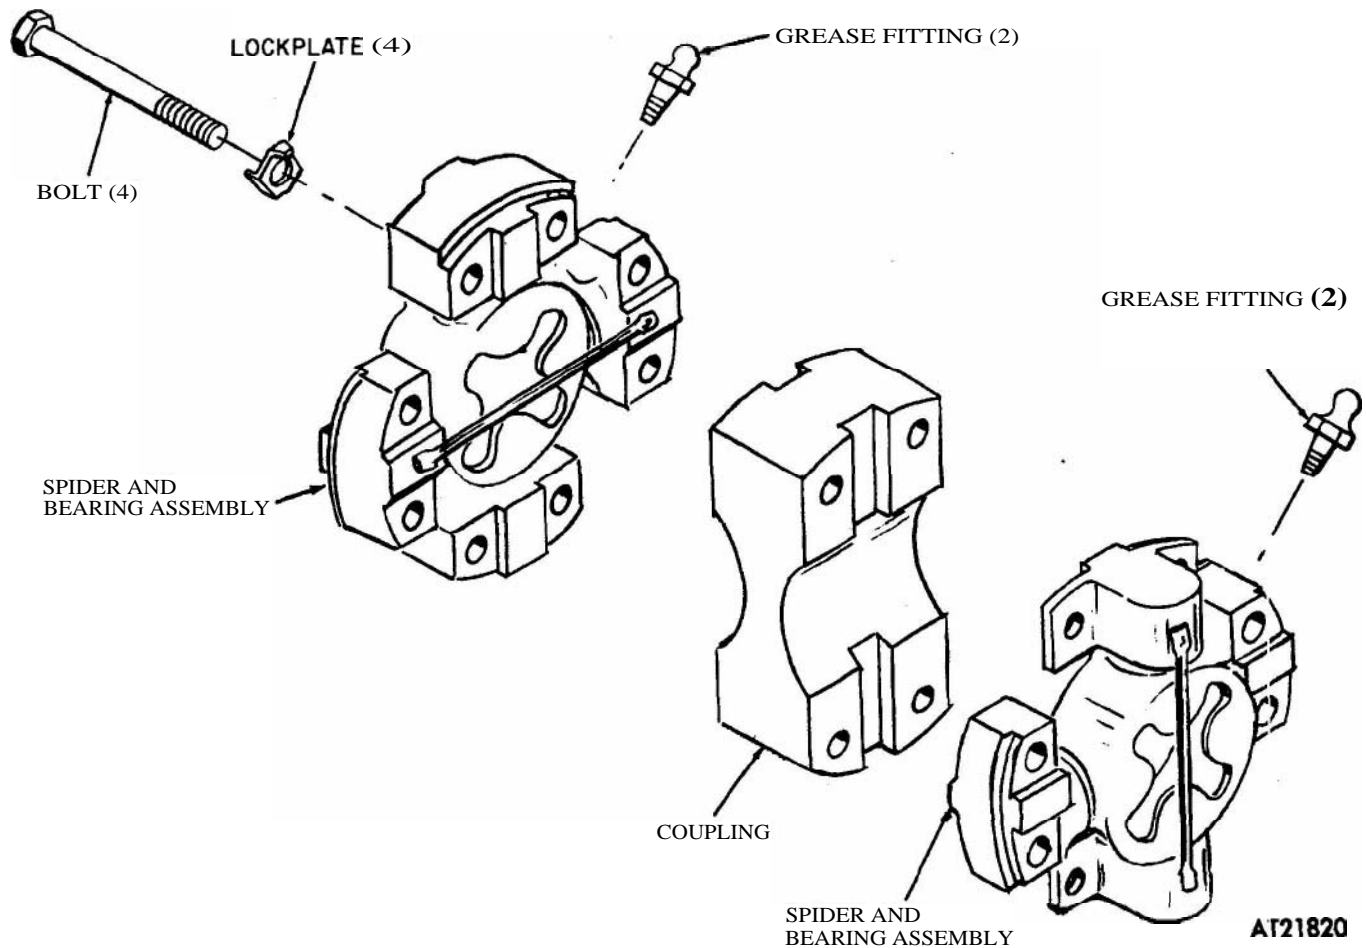

Figure 2-167. Coupling assembly (transmission-to-transfer), disassembly and assembly.
(1) Disassemble coupling assembly by removing four bolts and lock plates securing spider and bearing assemblies and coupling (fig 2-167).
(1) Position spider and bearing assemblies to coupling and secure with four bolts and lock plates (fig 2-167). Torque bolts to 24-30 lbs-ft. Bend tabs on lock plates to secure bolts.